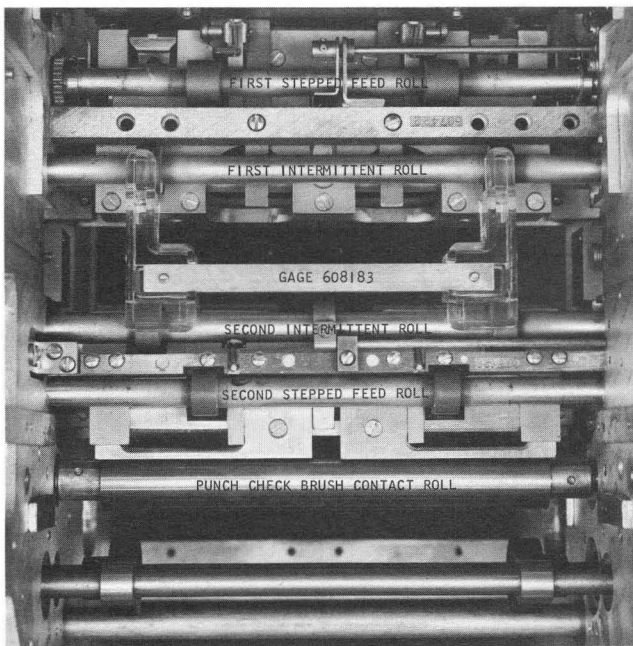

Figure 4-6. Gage Position in Punch Station
2. Insert gage 608183 (Figure 4-6).